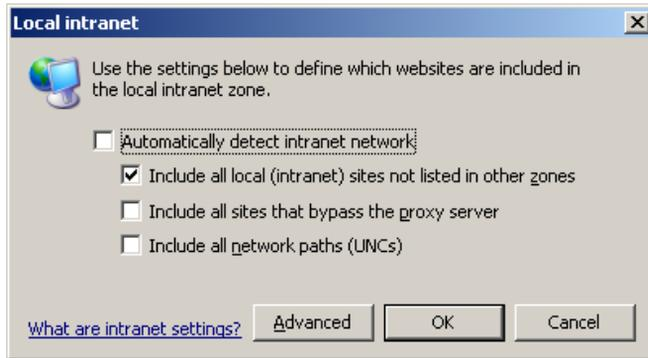

Figure 55. Local Intranet Dialog Box
19. Click **Sites** to open the Local Intranet dialog box (Figure 55).
10. Click **Sites** to open the Local Intranet dialog box (Figure 55).